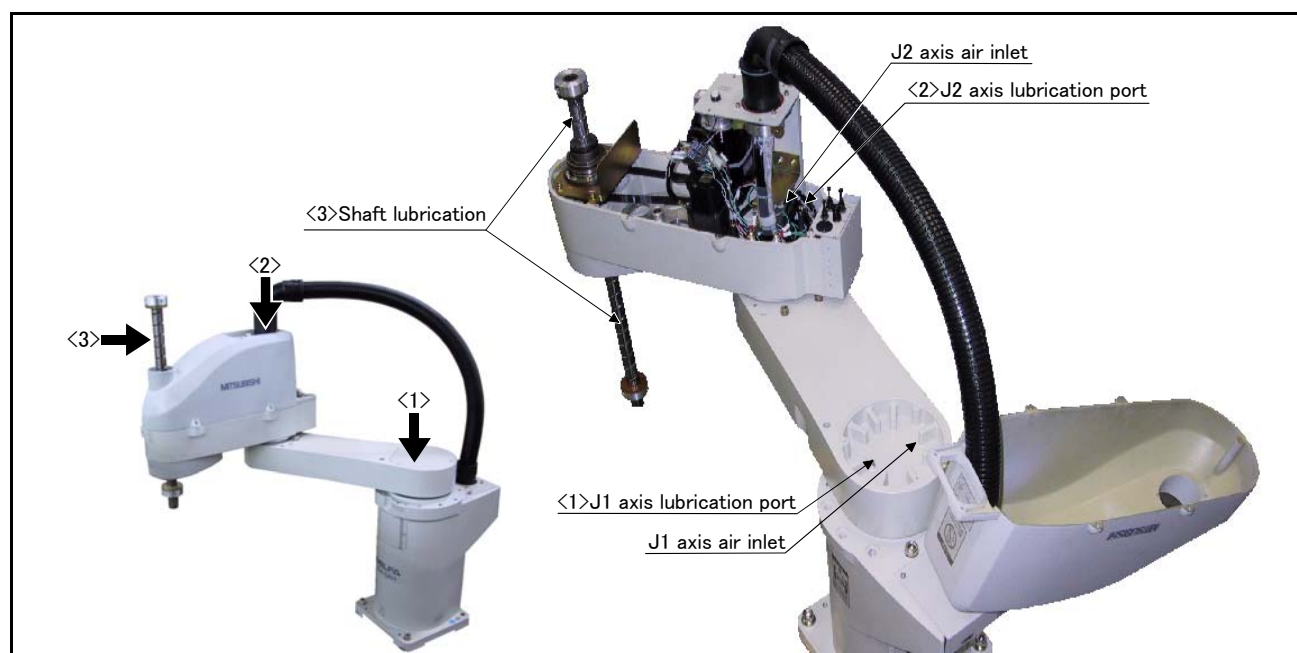

Fig.5-18 : Lubrication positions
The grease nipple position is shown in Fig. 5-18. The lubrication specifications for each place are shown in Table 5-6. When lubricating, remove the covers that need to be taken off by refer to "Fig.5-3 : Installing/removing the cover".
- The numbers in the Table 5-6 correspond to the supply positions in Fig. 5-18.
(2) Lubrication method to the J1, J2 axis